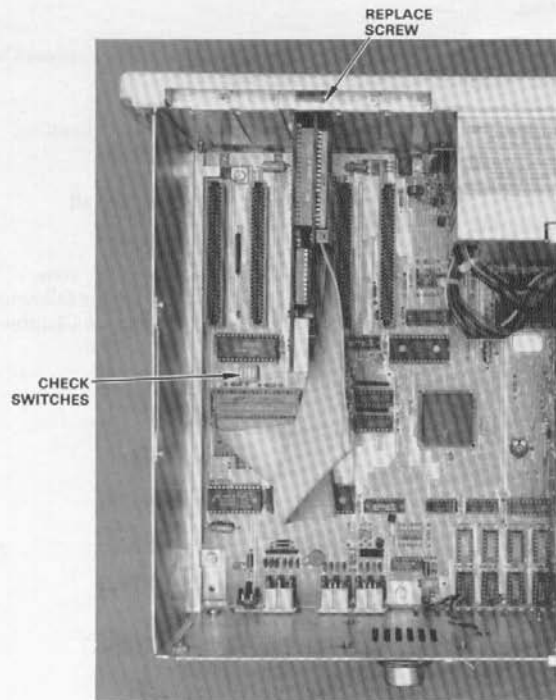

Figure 12. Plugging in 286 Express Card
11. Carefully plug the 286 Express Card into the motherboard as shown in Figure 12.